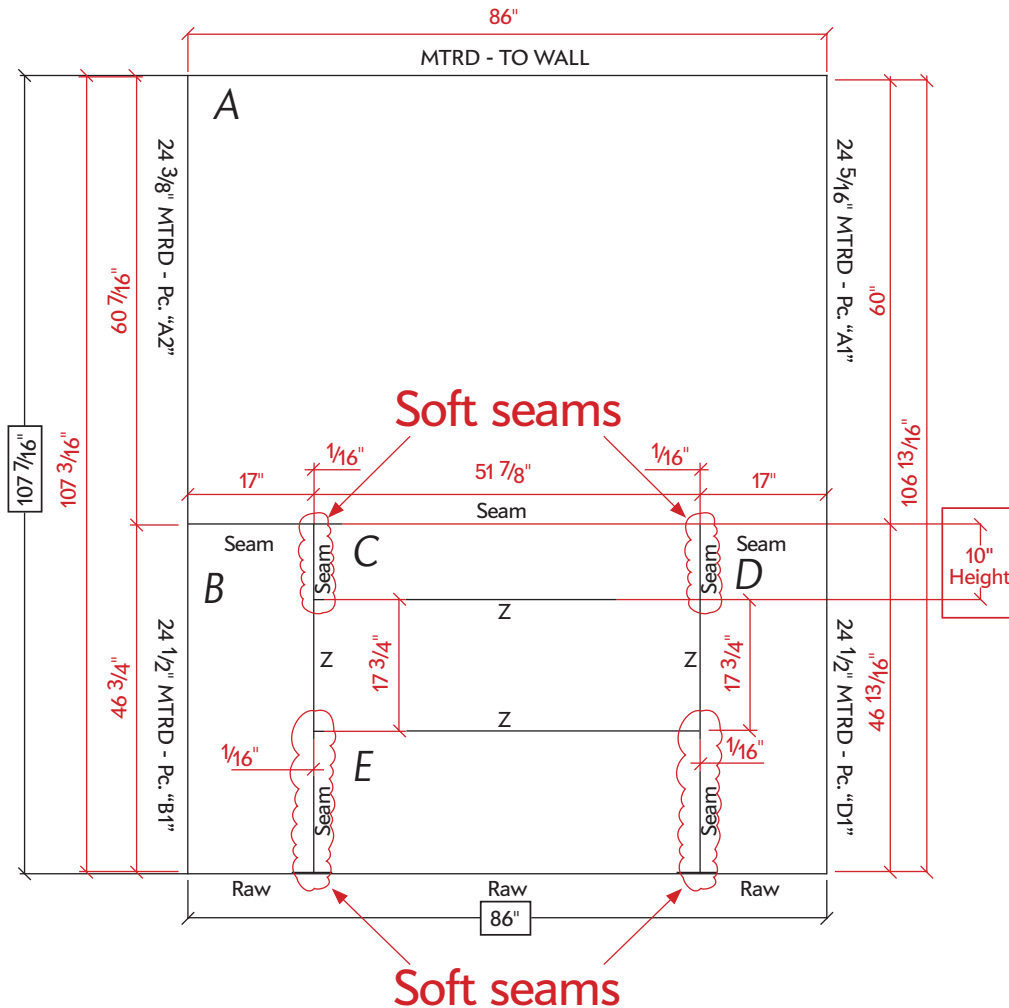

Figure 5
14. Cambria product installed adjacent to the four (4) sides of the fireplace opening must be independent pieces with vertical seams coming off each corner. See **Figure 5**.
16. The keystone piece of Cambria directly above the fireplace opening must be at least 10" in height and no longer than the opening of the fireplace. See **Figure 5**.
17. Additional soft seams may also be incorporated into the fireplace application to replace any existing adhesive seams, for visual symmetry, or to allow for any anticipated movement of the fireplace application while in use. See **Figure 5**.